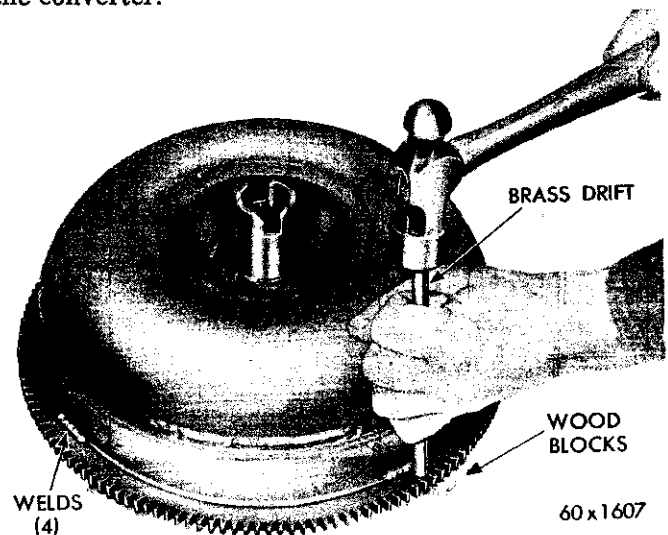

Fig. 87—Removing Starter Ring Gear
- (1) Cut through the weld material at the rear side of ring gear with a hack saw or grinding wheel (Fig. 87). Be careful not to cut or grind into the front cover stamping.
- (2) Scribe a heavy line on the front cover next to the front face of the ring gear to aid in locating the new gear.
- (3) Support the converter with the four lug faces resting on blocks of wood. **The converter must not rest on the front cover hub during this operation.** Using a blunt chisel or drift and hammer, tap downward on the ring gear near the welded areas to break any remaining weld material (Fig. 87). Tap around the ring gear until it comes off the converter.
- (4) Smooth off weld areas on the cover with a file.